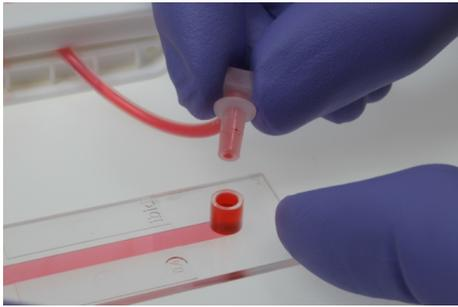

Figure 32: Fill the reservoir before connecting the Luer adapter.
2. Before connecting the Perfusion Set to the μ -Slide, the reservoirs of the slide must be filled to the top to avoid trapping bubbles in the reservoir (Figure 32). For a detailed description, refer to Application Note 13, "Endothelial Cells Under Perfusion".